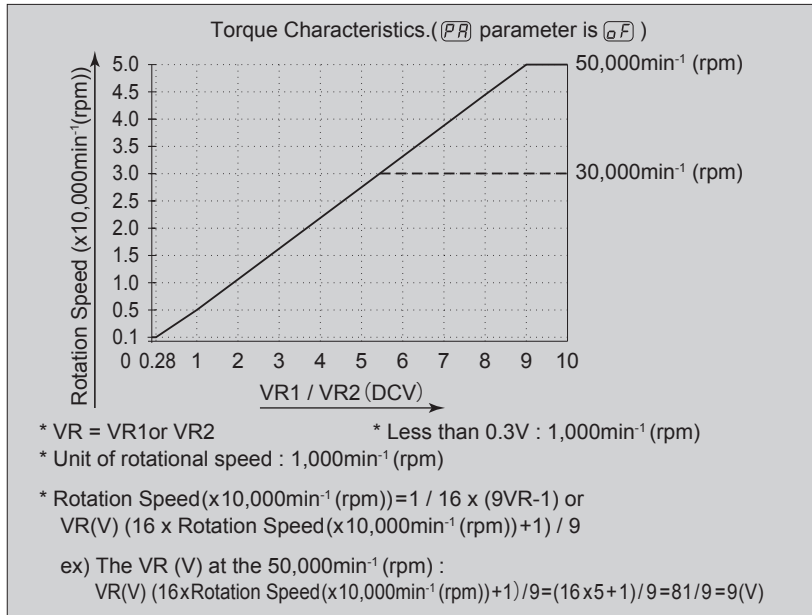
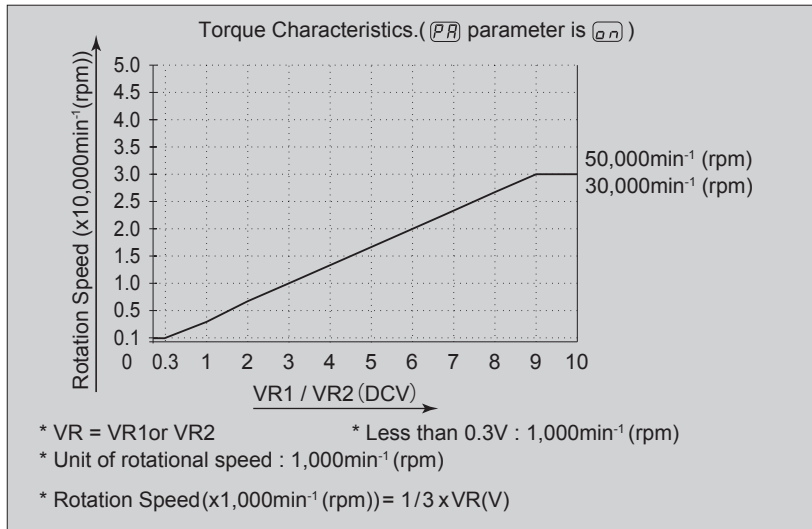

Fig. 36
Fig. 37
- The Fig. 36 are Characteristics of the Motor Speed Control Voltage Signal and rotation speed by parameter (PR) set to (0F). The Fig. 37 are Characteristics of the Motor Speed Control Voltage Signal and rotation speed by parameter (PR) set to (0n).